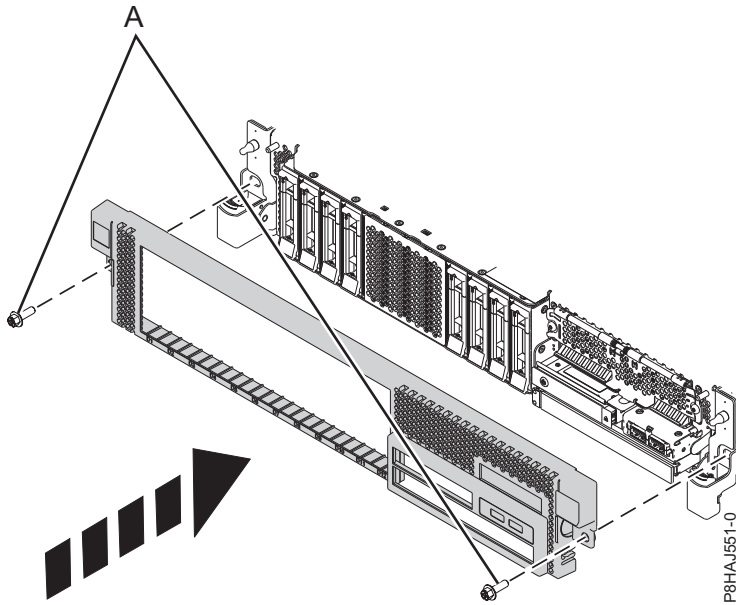

Figure 46. Installing the front cover
3. Close the release latches by pushing in the direction shown in Figure 46 on page 60. The cover snaps into place and has an indentation where you can hold onto it more easily.
4. Replace the shipping screws (A).